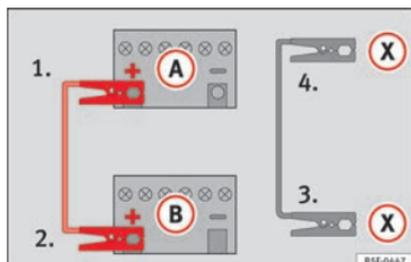

Fig. 77 Diagram of connections for vehicles with Start-Stop system.
– *For vehicles with Start-Stop system:* connect one end of the *black* jump lead (X) to a suitable ground terminal, to a solid piece of metal in the engine block, or to the engine block itself » » Fig. 77.
5. Connect the other end of the *black* jump lead (X) to a solid metal component bolted to the engine block or to the engine block itself of the vehicle with the flat battery. Do not connect it to a point near the battery (A).